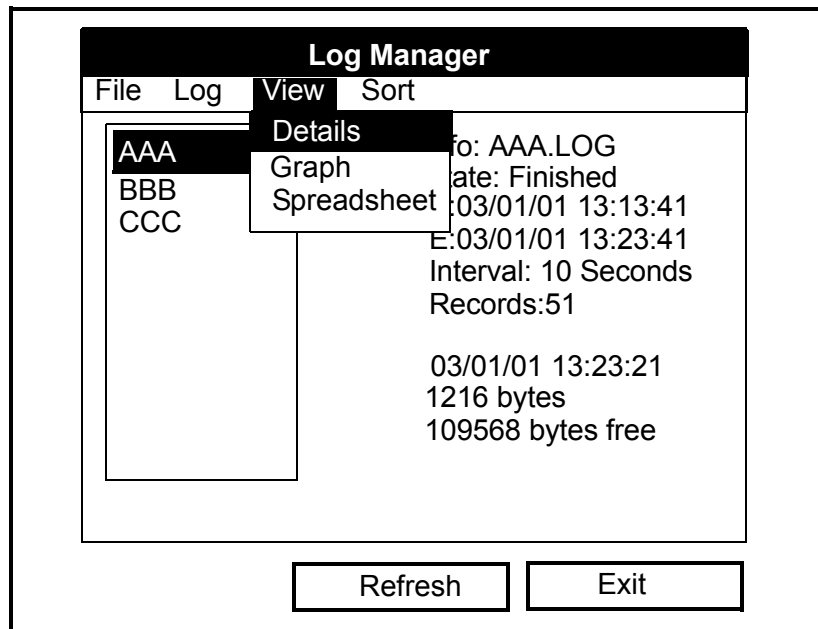

Figure 5-10: View Menu in the Log Manager
2. Press the [▶] key until the *View* menu is highlighted. Then, press [ENTER] and a window similar to Figure 5-10 below opens.